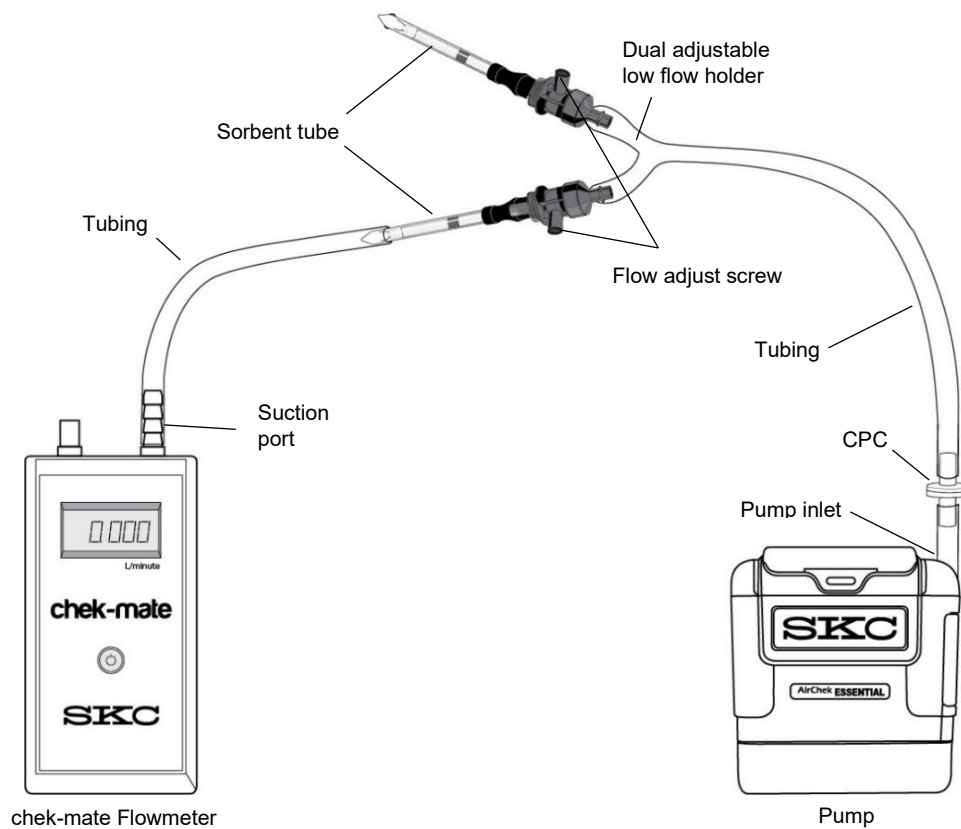

Figure 5. Flow Rate Verification Train (5 to 500 ml/min) for Multiple Tubes
- On the tube holder, insert an opened representative tube (arrow on tube pointing toward the pump) into the rubber sleeve on the port. Repeat for the desired number of tube samples. *See Figure 5.* Place an unopened (inactive) tube in any unused port to “seal” it.